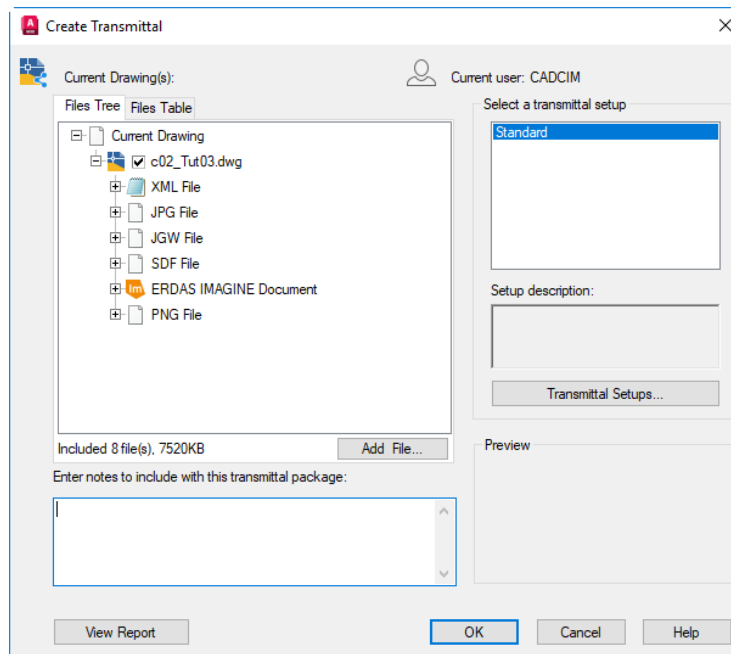

Figure 2-33 The Create Transmittal dialog box with files available for transmittal
2. Choose the **Yes** button in this message box; the **Create Transmittal** dialog box is displayed, as shown in Figure 2-33.